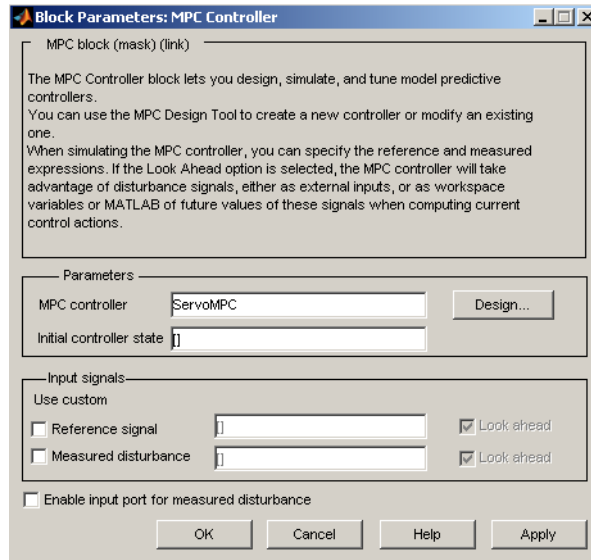

Figure 4-16: MPC Toolbox Simulink Block Dialog
- MPC Controller is from the MPC Blocks library. Figure 4-16 shows the dialog box obtained by double-clicking on this block. You need to supply an MPC object, and `ServoMPC` is being used here. It must be in the Workspace before you run a simulation. The **Design** button opens the design tool, which allows you to create or modify the object. To review how to use commands to create `ServoMPC`, see “Constructing an MPC Object” on page 4-20.